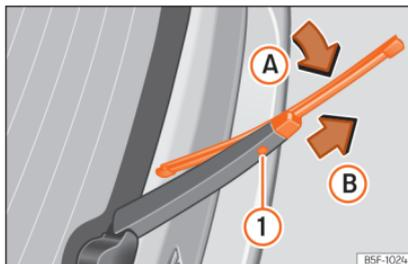

Fig. 41 Changing the rear wiper blade
- Turn the blade slightly » » Fig. 41 (arrow **A**).
- Hold down the release button ① while gently pulling the blade in the direction of arrow **B**.
- Insert a new blade of the **same length and type** in the rear wiper arm in the opposite direction to the arrow **B** and hook into place button ①.